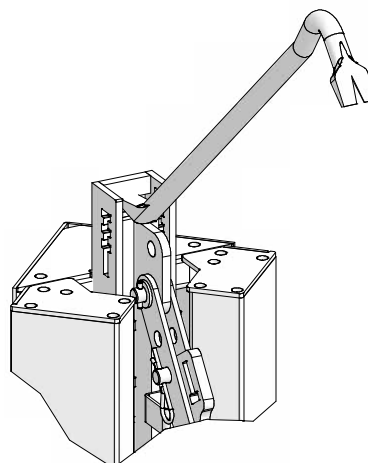

Fig. 31.5
7. The stripping corner can be reset for the next pour by positioning the crowbar at position C (Fig. 31.5) and pushing the bell-crank lever down.